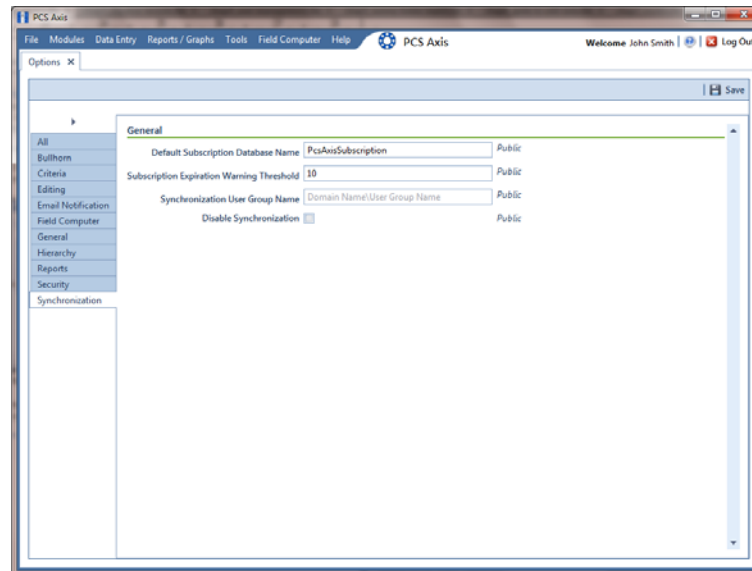

Figure 2-14. Synchronization
- 1 Click **Tools > Options > Synchronization** to open the synchronization property settings window (Figure 2-14).